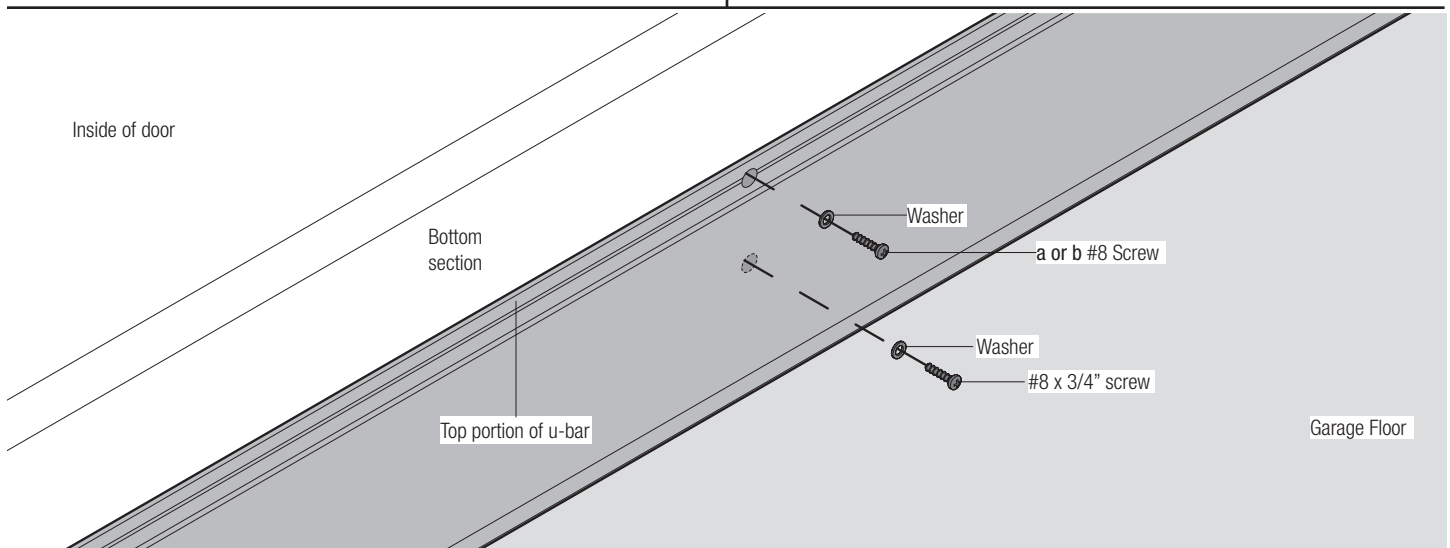

FIG. 1.3
On the inside of the door, secure the outside step plate using the #8 screws and washers provided. Install (1) #8 x 3/4" screw in the bottom outside step plate hole, as shown in FIG. 1.3. The #8 screw for the top hole varies in length, depending on your door model, as shown below: